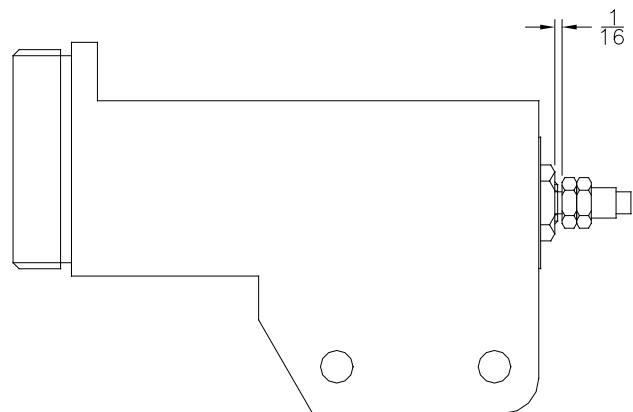

Figure 11: Air Before Fluid Adaptor
20. Tighten the nuts against each other to prevent movement (see Figure 11).